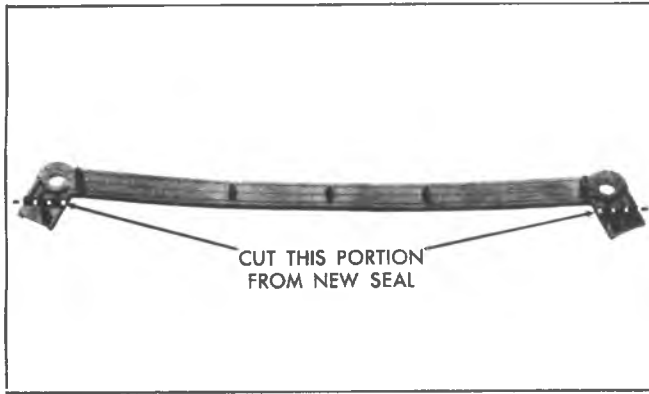

Fig. 6A5-32--Oil Pan Front Seal Modification
2. Cut tabs from the new oil pan front seal (fig. 6A5-32). Use a sharp instrument to ensure a clean cut.
5. Apply a 1/8" (3mm) bead of RTV sealer, #1052366 or equivalent, to the joint formed at the oil pan and cylinder block (fig. 6A5-33).